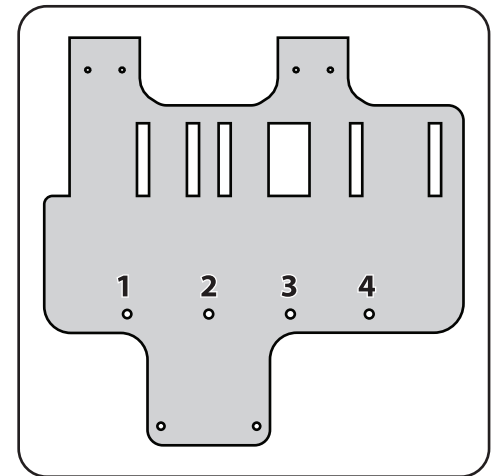

Figure 4-5
1. Using Figure 4-5 and the chart below, locate the correct mounting hole location on the mounting bracket for your tractor: